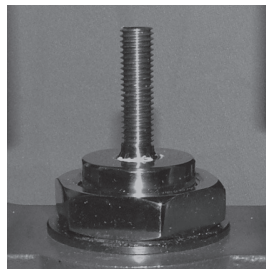

Fig. 20
- Push the valve stem down so that the mark lines up with the stuffing box (Figure 20).